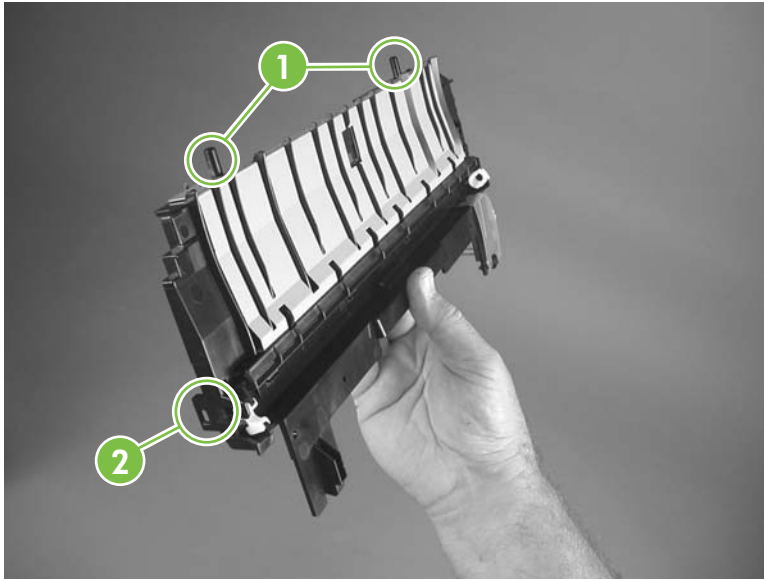

Figure 5-241 Reinstall the paper feed assembly (3 of 8)
2. Locate the pin on the MFP chassis below the drum ground. The slotted tab on the paper feed assembly, callout 2 in Figure 5-241 Reinstall the paper feed assembly \(3 of 8\) on page 335, must fit over this tab when the paper feed assembly is installed.
6. Position the corner of the paper feed assembly with the slotted tab down into the cavity to engage the pin. See callout 2 in Figure 5-241 Reinstall the paper feed assembly \(3 of 8\) on page 335 to locate the pin.